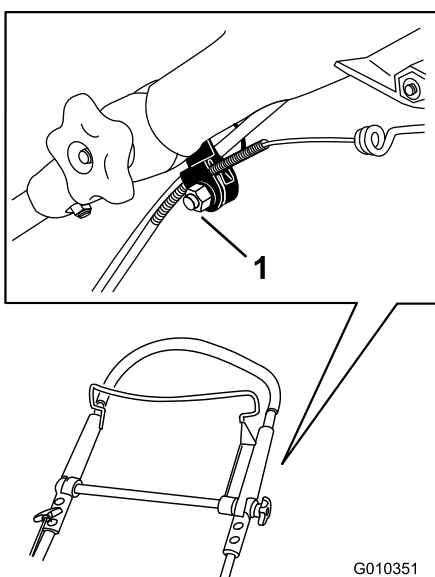

Figure 36
1. Loosen the nut on the cable mount (Figure 36).